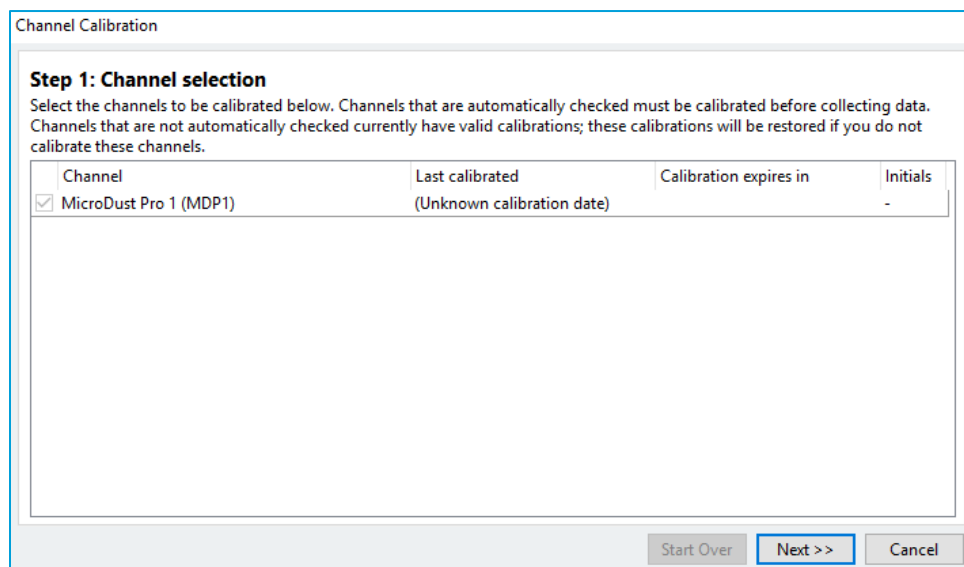

Figure 2-15: Channel Selection when the External device is not connected to the inExpose
In the inExpose, the most common extensions are the particle density transducer (PD) and Micro Dust Pro (MDP). An example aux port error with the inExpose where calibration of the tool is required is shown in Figure 2-15.